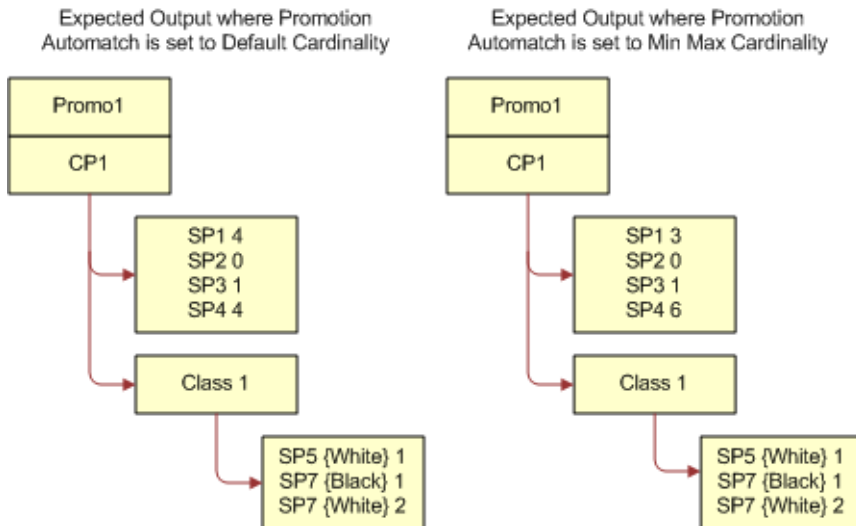

Figure 8. Expected Output for Adding a Promotion Line Item Example
- 3 The expected output when you apply a promotion (Promo1) to a customizable product (CP1) that is based on the Promotion Automatch argument value is shown in Figure 8.
Figure 8 shows the expected output when Promotion Automatch is set to Default Cardinality, which is as follows: SP1 has a default quantity of 4, SP2 has a default quantity of 0, SP3 has a default quantity of 1, and SP4 has a default quantity of 4. SP5 has a default quantity of 1 and the attribute value White. SP7 has a default quantity of 1 and the attribute value Black. SP7 has a default quantity of 2 and the attribute value White.
Figure 8 shows the expected output when Promotion Automatch is set to Min Max Cardinality, which is as follows: SP1 has a default quantity of 3, SP2 has a default quantity of 0, SP3 has a default quantity of 1, and SP4 has a default quantity of 6. SP5 has a default quantity of 1 and the attribute value White. SP7 has a default quantity of 1 and the attribute value Black. SP7 has a default quantity of 1 and the attribute value White.
Figure 8 shows the expected output when Promotion Automatch is set to Default Cardinality, and when Promotion Automatch is set to Min Max Cardinality.